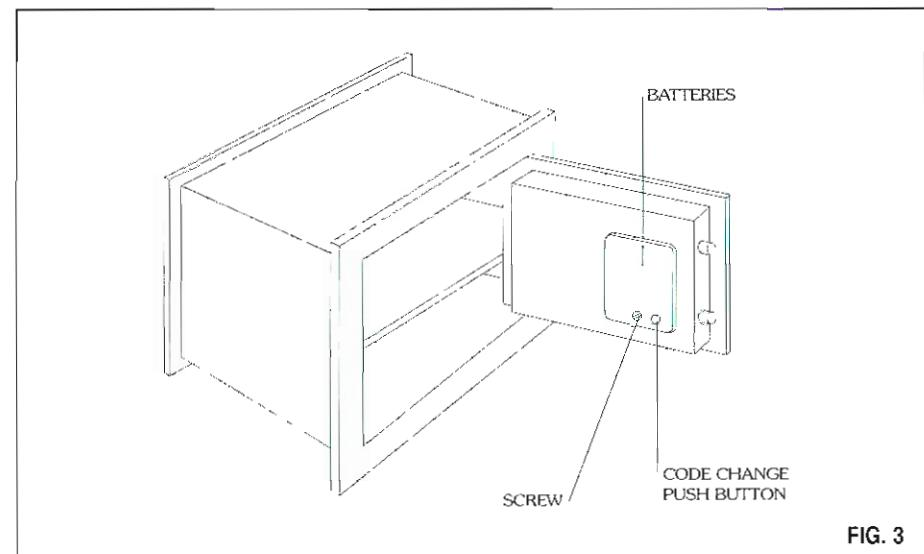

FIG. 3
The batteries are inside the door (see fig. 3).
- Then remove the battery cover by loosening the screw that holds it down (fig. 3).